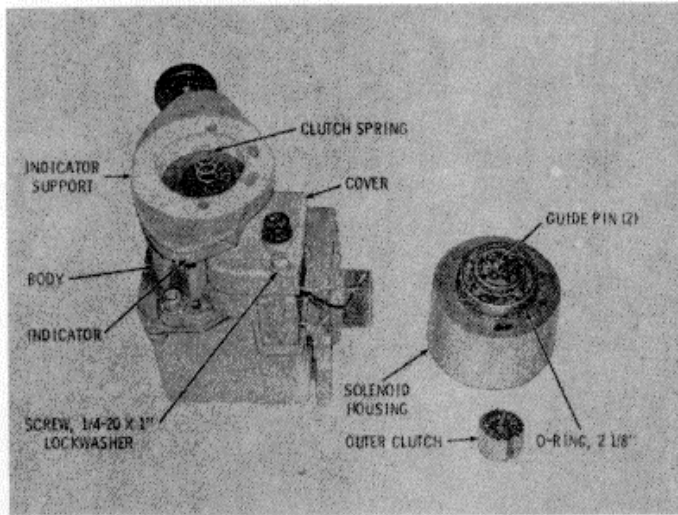

Figure 15-105. Shift Tower Assembly with Solenoid Housing Removed
9. Remove the outer clutch from the solenoid housing (Figure 15-105). Remove the O-ring. Remove the guide pins from the solenoid housing if new pins are required.
10. Remove the clutch spring (Figure 15-105). Remove the indicator support.
11. Remove the screw and lockwasher that retain the cover (Figure 15-105).
19. Install the cover onto the body (Figure 15-105). Retain the cover with one 1/4-20 x 1 inch screw and lockwasher.
20. If necessary, install a new indicator onto the indicator support (Figure 15-105). Install the indicator support onto the body cover. Apply a small quantity of grease (Texaco Marfak No. 2, or equivalent) to the teeth of the inner clutch. Position the clutch spring in the center recess of the inner clutch.
21. If the guide pins were removed from the solenoid housing, install new pins (Figure 15-105). Press the pins until they are flush with the surface of the housing inner hub.
22. Install the 2-1/8 inch (53.9 mm) O-ring onto the solenoid housing (Figure 15-105). Coat the outer surface of the outer clutch lightly with grease (Marfak No. 2, or equivalent). Install the outer clutch, flat end first, into the solenoid housing. The clutch must move freely, endways, when engaged with the guide pins.
23. Install the assembled solenoid housing onto the indicator support (Figure 15-105).